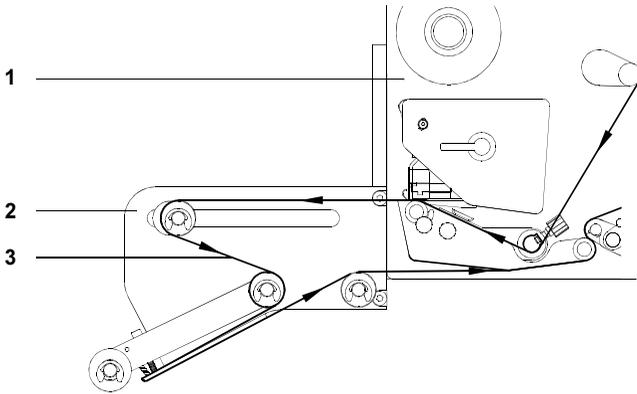

Fig. 2 Material loading
2. Feed the label strip out of the front side of the printer (1) until there is enough material to reach the internal rewinder of the printer.
3. Remove all labels from the outstanding liner (3).
4. Load the liner into the present module (2) as shown in figure 2.
5. Feed the liner (3) to the internal rewinder of the printer and fix it there corresponding to the instructions of the Operator's Manual **Hermes**.